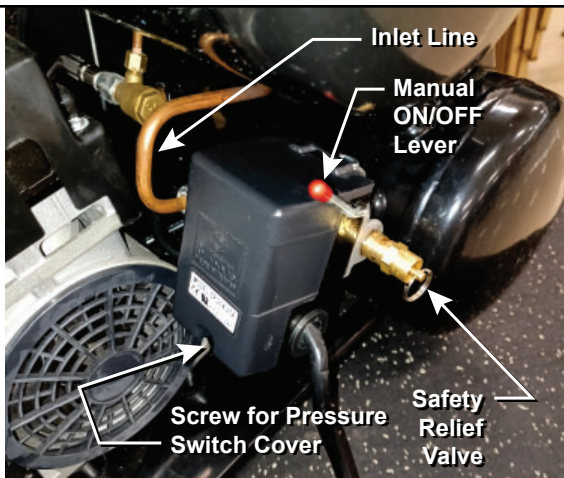

Figure 5-4: Cut-in/cut-out adjustment screw location
4. Remove Phillips head screw shown in *Figure 5-4*, to remove pressure switch cover.